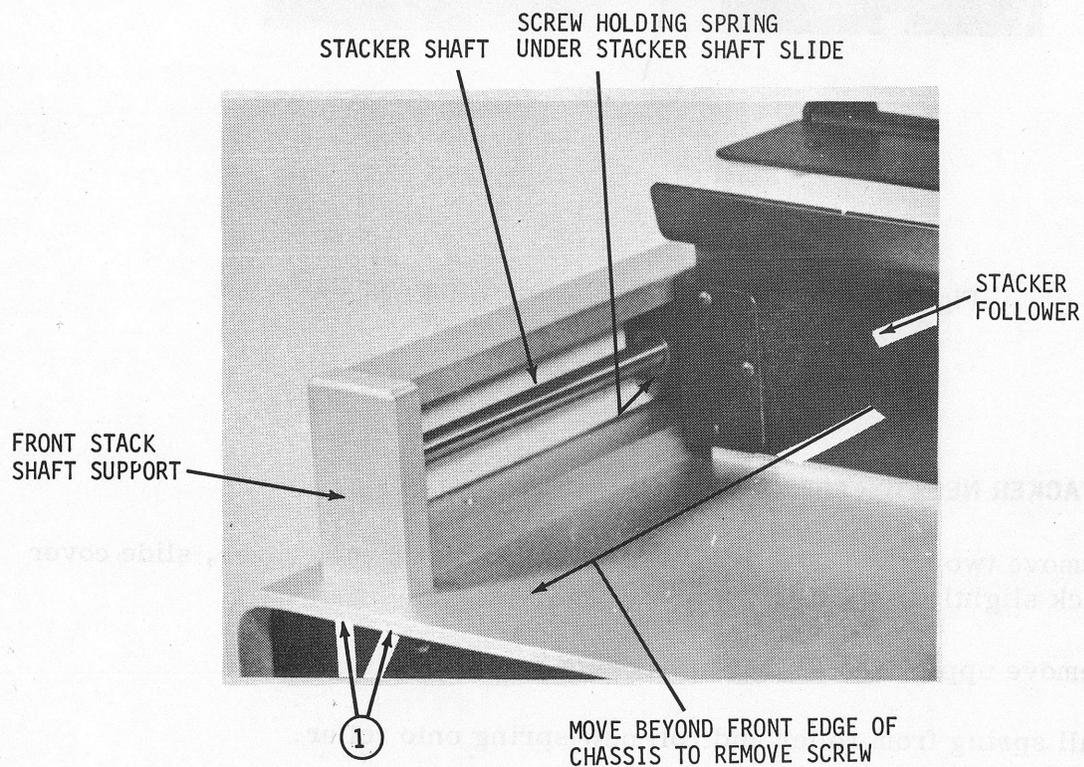

Figure 9-22. Stacker Negator Spring Replacement
- c. Using a 9/64 Allen wrench, remove two socket head screws ① holding front stacker shaft support, figure 9-22.
- e. Remove stacker shaft, figure 9-22.